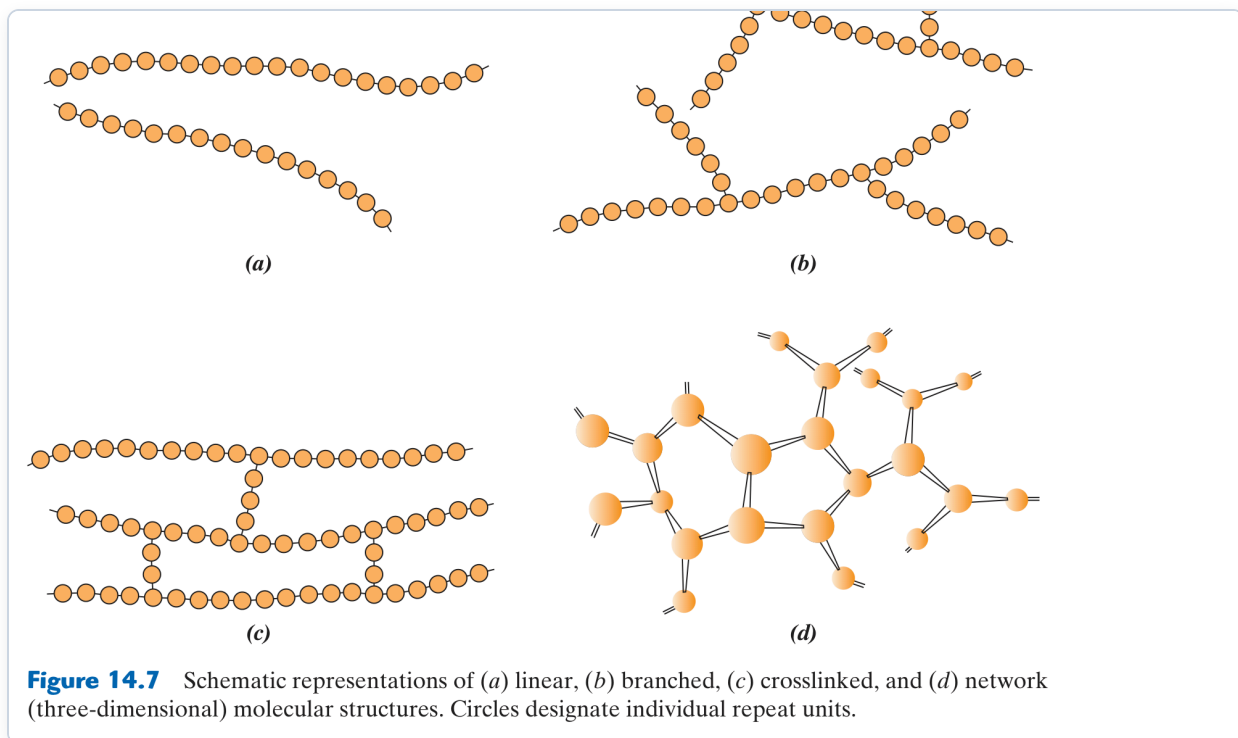

Figure 14.7: Schematic representation of polymer chain structures: (a) Linear, (b) Branched, (c) Crosslinked, and (d) Network.
- **Chain Architectures (Figure 14.7):**